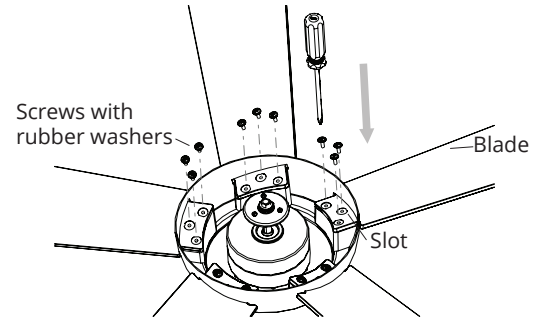

FIGURE 8
2. Insert the fan blade through the slot in the housing. Align the holes in the blade with the fan motor assembly holes and secure with a blade attachment screw with rubber washers (Fig. 8).